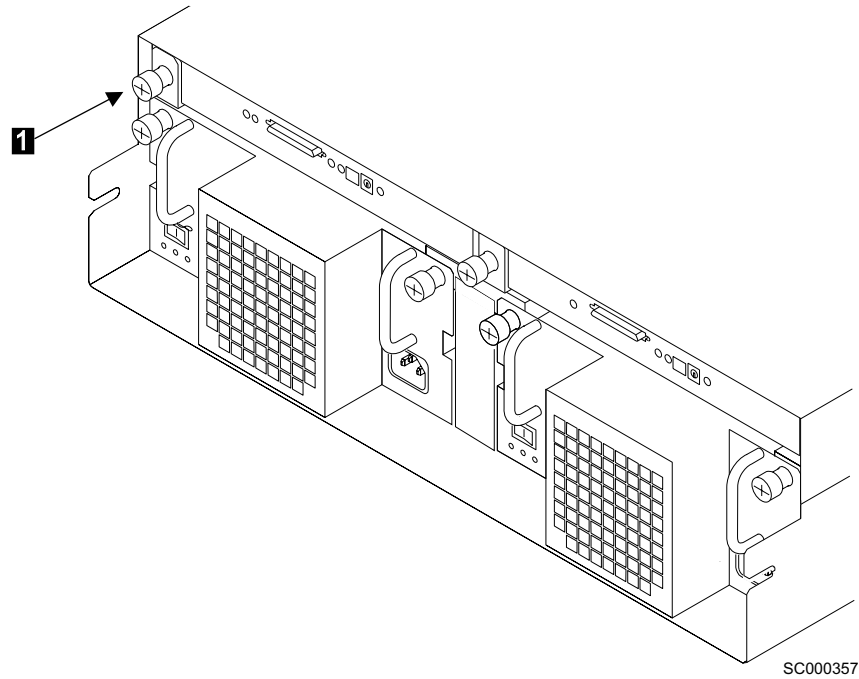

Figure 35. Unscrewing the thumbscrew
- a. Unscrew the thumbscrew **1**. See Figure 35.